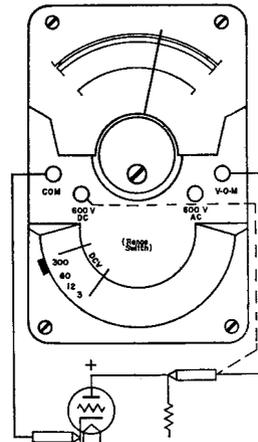

FIGURE 4. DC Voltage
3.02 The DC voltage ranges are 0-3, 12, 60, 300 and 600 volts and are read as follows (see Figure 4):